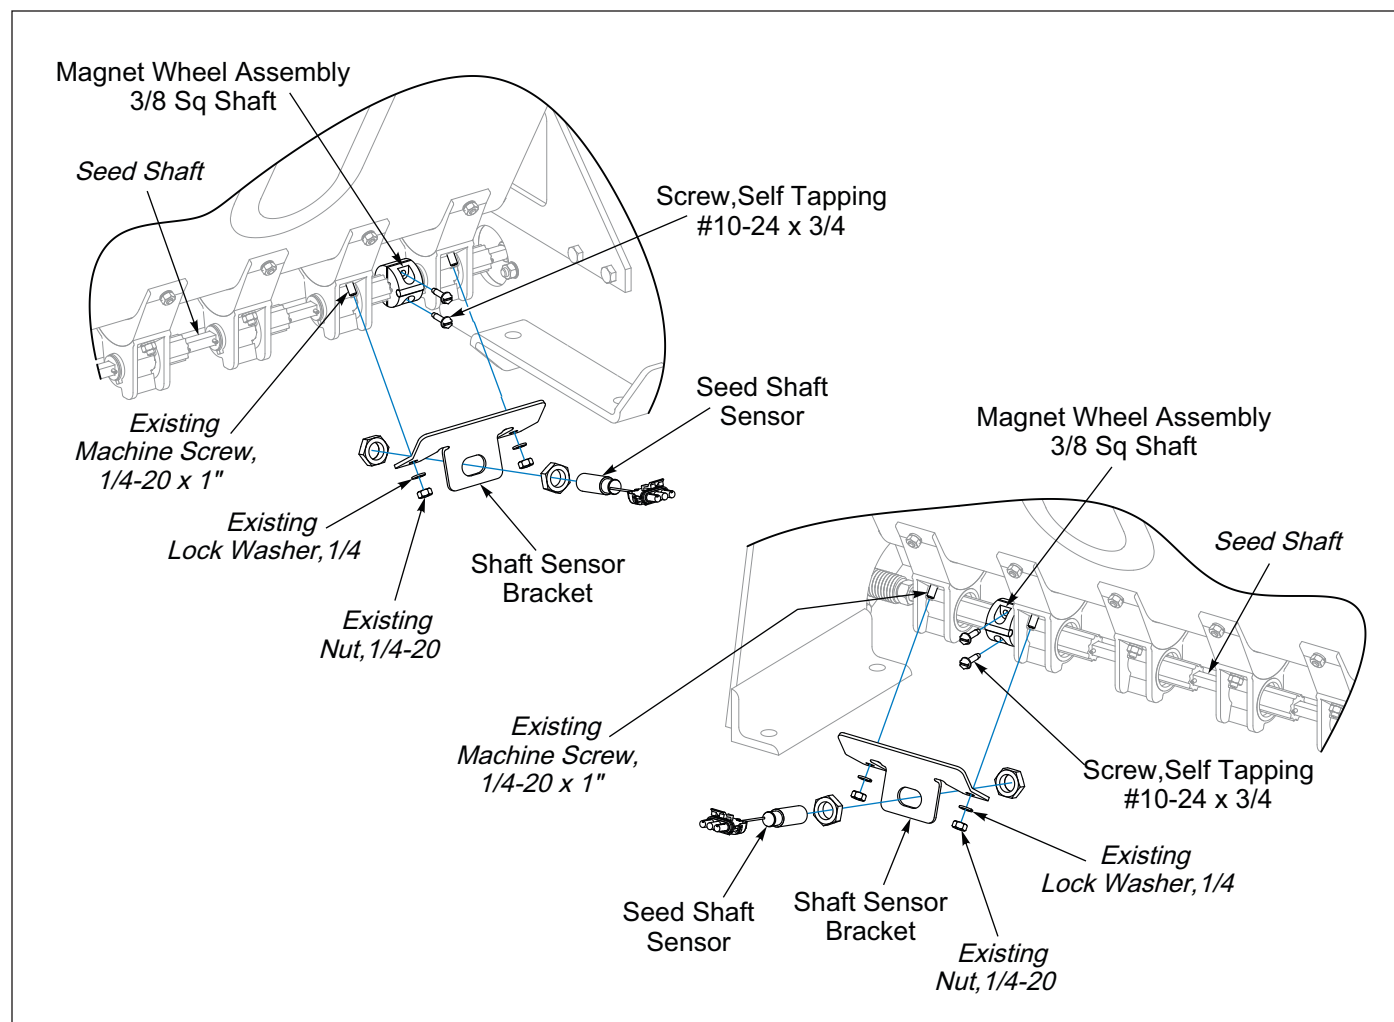

Figure 2-43: Console w/Clutch Control - Seed Shaft Sensor
1. Remove the two #10 x 24 x 3/4 Self Tapping Screws from the Magnet Wheel Assembly. Position the rounded half of the Magnet Wheel Assembly on the seed shaft. Ensure it fits squarely onto shaft. Mount magnet half to the rounded half. Ensure it fits squarely onto shaft. **See Figure 2-43.**